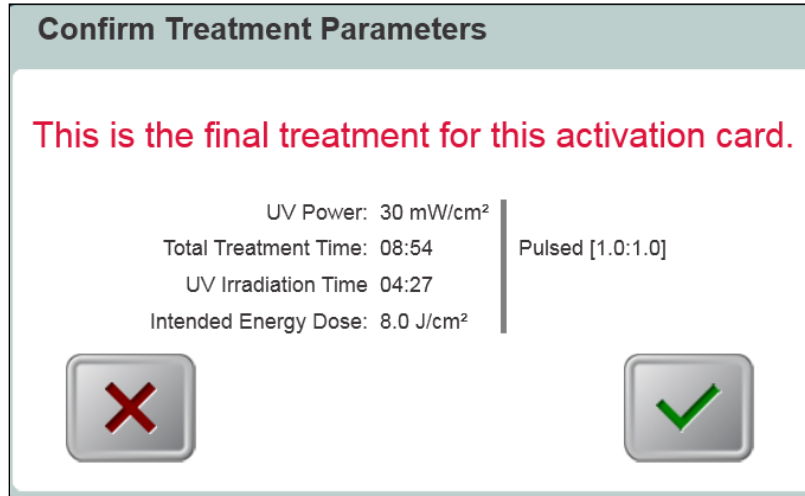

Figure 5-14. Final Treatment
- Prior to using the final treatment on a multi-use activation card, a message, as shown in Figure 5-14, will appear to inform the user that this is the final treatment.